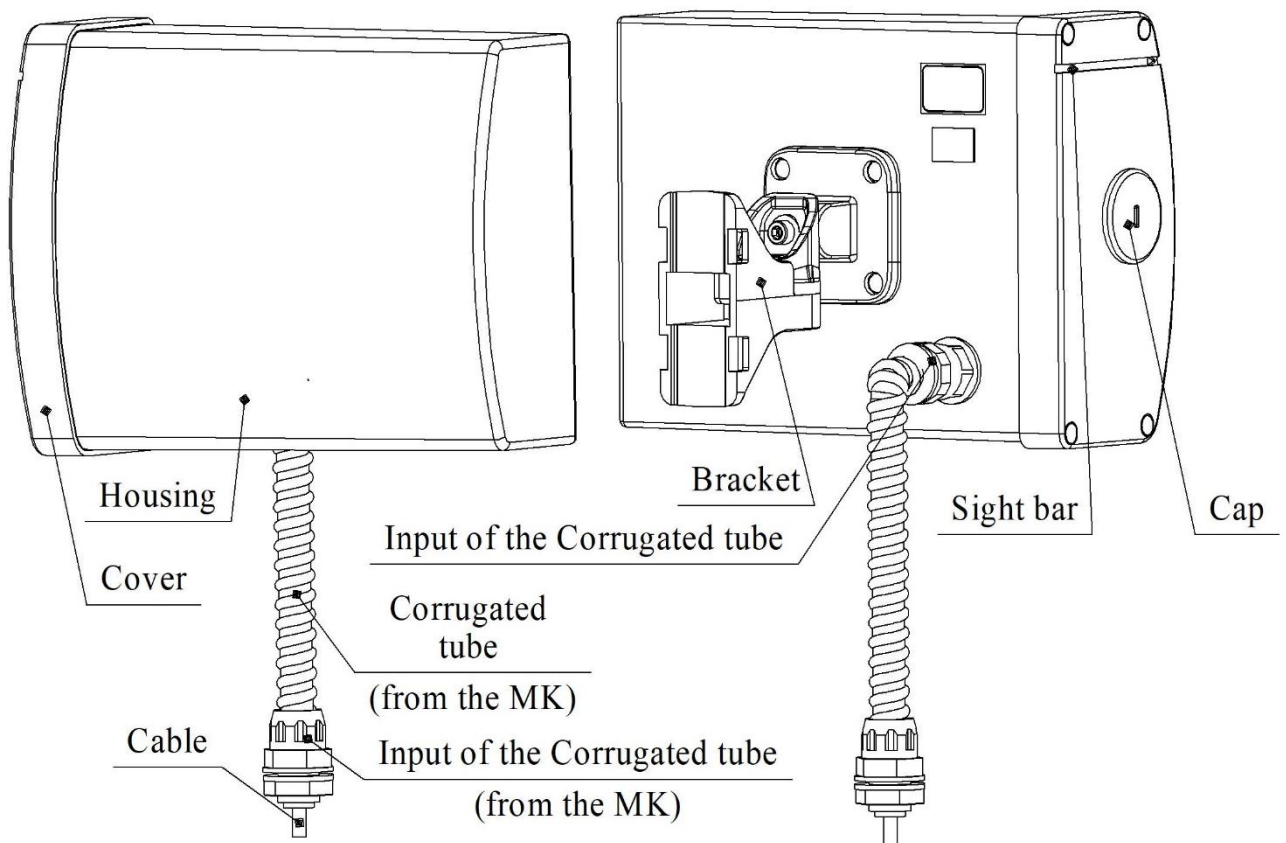

Figure 1.4 – The design of the Tx unit (Rx unit) of the sensors
1.4.2.1 The Tx unit (overall dimensions 195,5x154,5x100 mm) (see Figure 1.4) contains a plastic housing with a microwave module and a modulator with configuration
- 1.4.2.2 The Rx unit (overall dimensions 195,5x154,5x100 mm) (see Figure 1.4) contains a plastic housing with a microwave module and processing board with configuration elements. The housing contains a parabolic insertion. The housing is closed with a cover. On the bottom face of the housing there are two holes preventing the condensate inside the Rx unit. On the cover there is a sight bar to make it easy to adjust the sensor. The configuration elements are covered with a cap. The cap is protected against unauthorized opening with a button. On the back face of the housing there is a bracket for pole mounting of the unit. Use the 8-core cable brought out from the unit through the input of the corrugated hose to connect the Tx unit to the junction box or power supply unit.